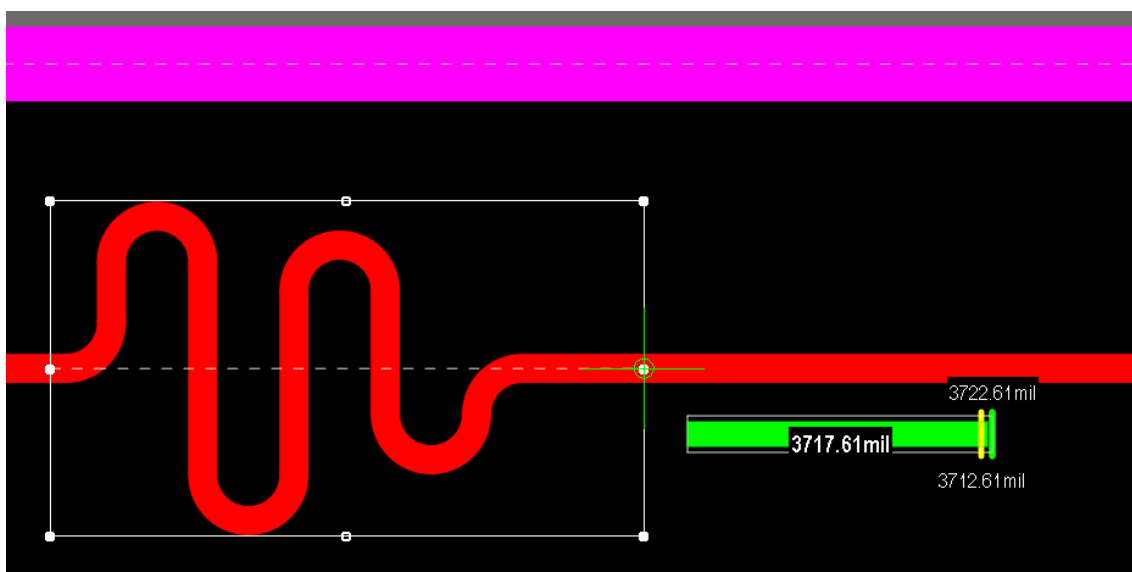

Figure 19. Using the Length Guide Indicator
44. To ensure that you're adhering to the Length rule, you can use the *Length Guide Indicator* to help you achieve the proper length. This guide can be enabled and disabled using the **SHIFT+G** shortcut keys while tuning, as shown in Figure 19.